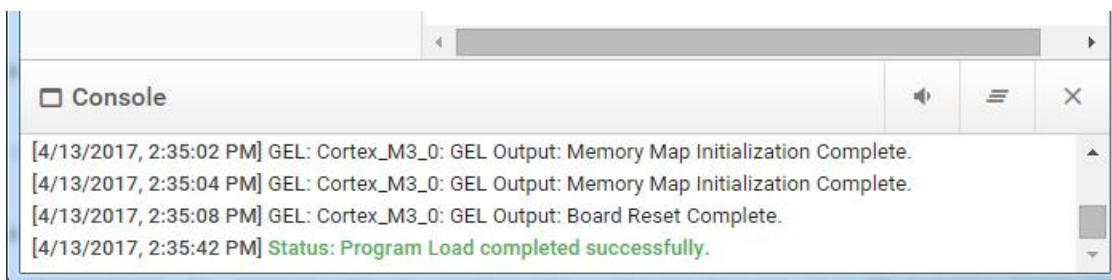

図 7. Successful Load
- If loading the image was successful, a success message should show in the console as shown in 図 7.